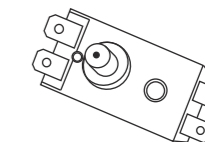

Fig. 16
- for FS1/FS3/FS5 series vertical-type water heaters: unscrew retaining nut of the thermal switch, fastened on the flange of the heating element, turn the thermal switch and press the button, located in the center of the thermal switch, until it clicks; Fig. 16;